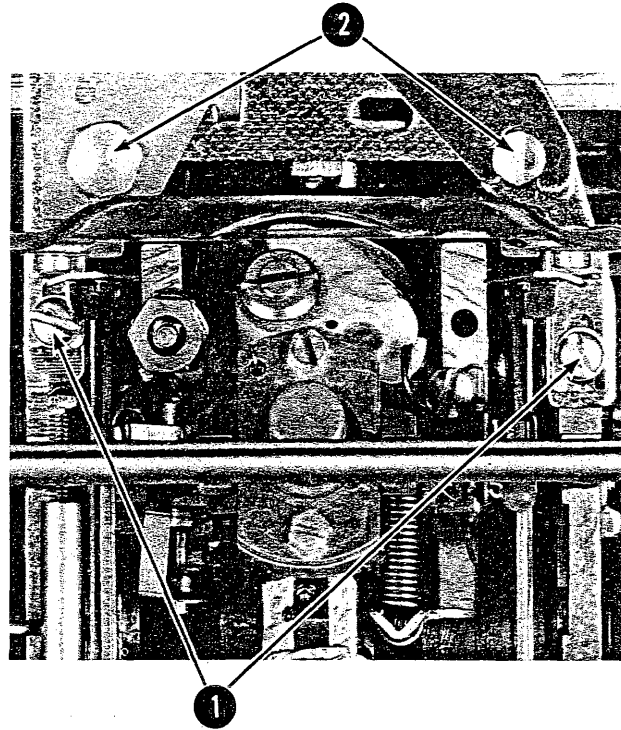

Figure 4-52. Carrier-Shoe Removal (Steps 1-3)
2. Remove the two card-holder screws (No. 1, Figure 4-52).
3. Remove the two escapement-bracket screws (No. 2, Figure 4-52).